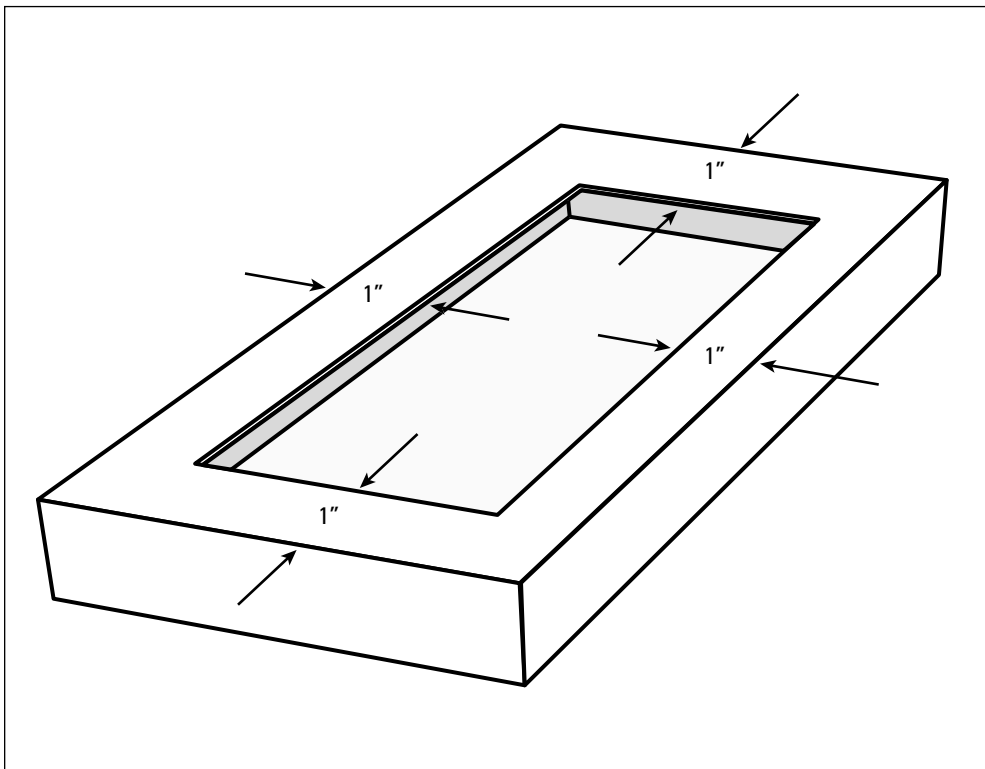

Figure 2-6:
1. Cut a hole in the lid using the craft knife. The hole need to be 1" smaller than the lid (see Figure 2-6).